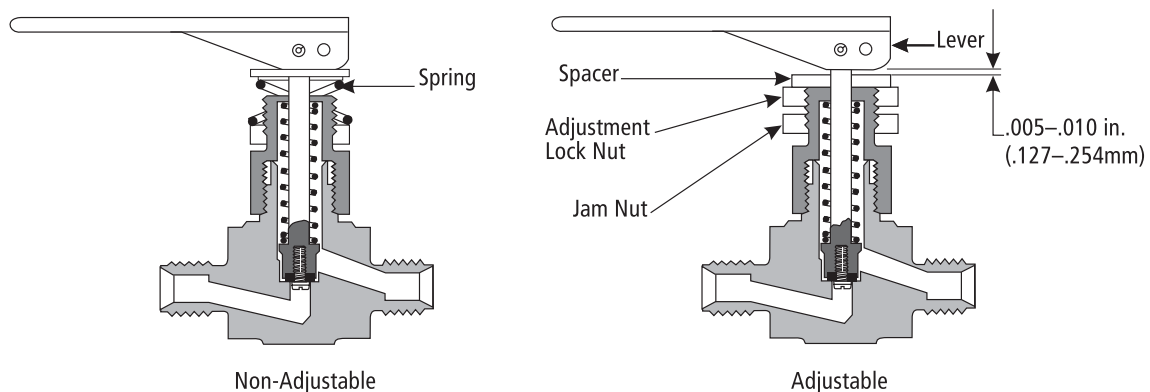

Figure 5-18: Vent Valve Adjustment
- With the vent valve in the closed position, check the clearance between the vent valve lever **7** and the plastic spacer **8**. The clearance should be 0.005 to 0.010 in. (.127 to 0.254 mm) or about the thickness of this page (Figure 5-18).